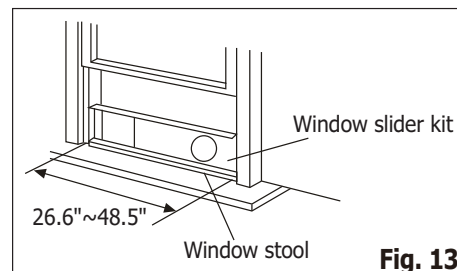
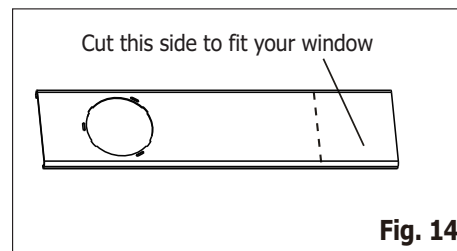
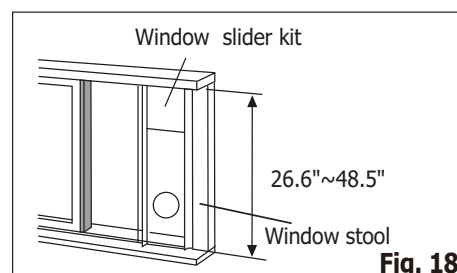

Fig. 13
Fig. 14
Fig. 18
2. Attach the window slider kit to the window stool. Adjust the length of the window slider kit according to the width of window. Cut the adjustable window slider kit if the width of window is less than 26.6 inches (Fig. 14). Open the window sash and place the window slider kit on the window stool. (Fig. 13)
2. Attach the window slider kit to the window stool. Adjust the length of the window slider kit according to the height of window. Cut the adjustable window slider kit if the height of window is less than 26.6 inches (Fig. 14). Open the window sash and place the window slider kit on the window stool. See Fig.18.